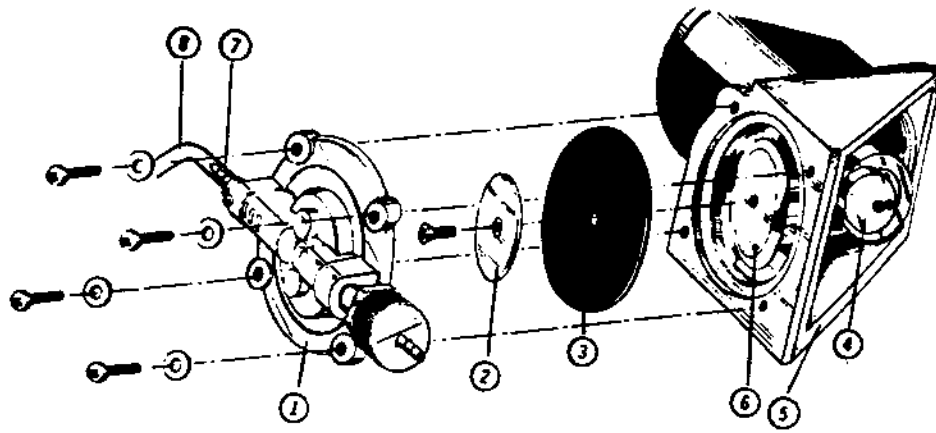
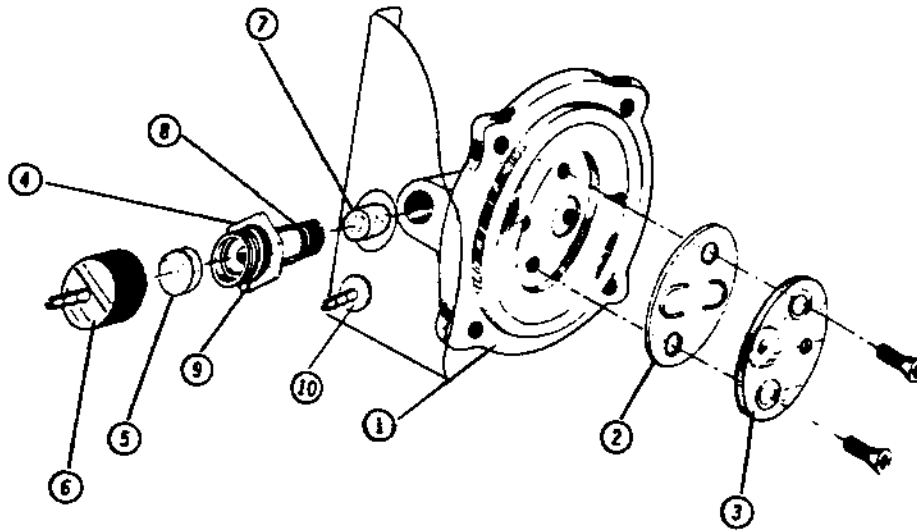

FIG. 6
FIG. 7
- (5) Unscrew the screws that secure Cover to Chassis and remove Cover.
- (6) Remove Pump Head (Fig.6, No.1).
- (7) Unscrew and remove Diaphragm Adjustment Plate (Fig.6, No.2) and Diaphragm (Fig.6, No.3).
- (8) Unscrew and remove Fixing Plate (Fig.7, No.3) from inside Pump Head (Fig.7, No.1), and remove Valve Plate (Fig.7, No.2).
- (9) Clean off any flux that is adhering to Valve Plate and Diaphragm with alcohol, etc. If any of Pump parts are cracked or deformed, replace them with new parts.
- (10) Reassemble the unit by above disassemble steps in reverse order.
WARNING: Be sure to reassemble Fixing Plate (Fig.7, No.3) in proper direction, i.e., so that the countersink in Fixing Plate is opposite the counterbored holes in Pump Head (Fig.7, No.1). Make sure that Crank Arm (Fig.6, No.6) is at the lowest position before replacing Diaphragm (Fig.6, No.3), Diaphragm Adjustment Plate (Fig.6, No.2) and Pump Head (Fig.6, No.1). Apply a little silicon oil to the surface of Valve Plate (Fig.7, No.2) and Diaphragm (Fig.6, No.3) before reassembling them. This will make future disassembly much easier. Be careful not to allow any dust or other foreign matter to enter Pump inside during reassembling.
#2, #3 & #7 FROM FIG. 7 COME TOGETHER AS ON PART - THAT PART NUMBER IS 481-214